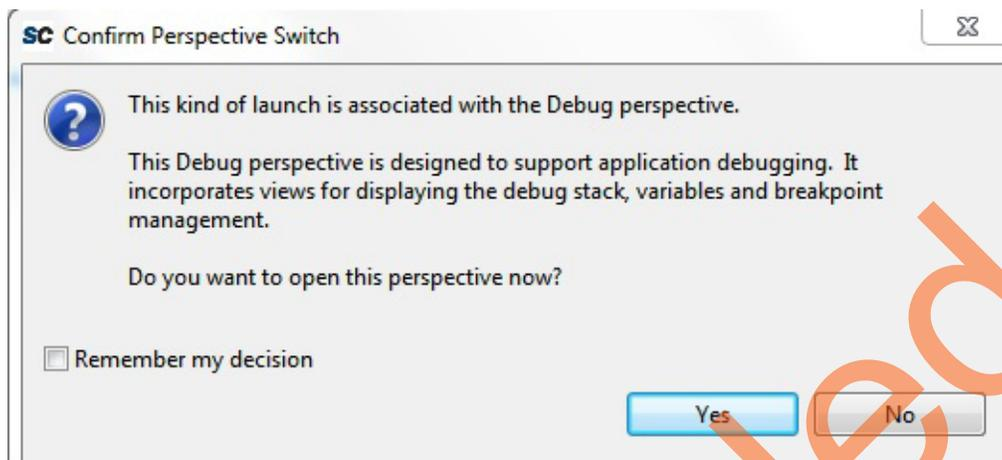

Figure 50 • Confirm Perspective Switch
- Click **Yes**, when prompted for **Confirm Perspective Switch**. This displays the debug view mode as shown in Figure 50.